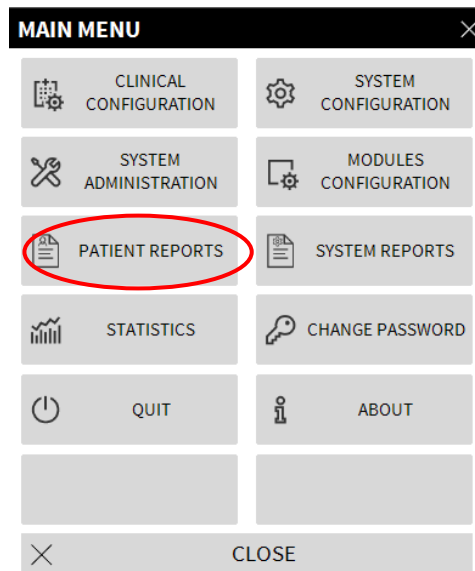

Fig 30
The following menu is displayed (Fig 30).
- Click the **Patient Reports** button (Fig 30).